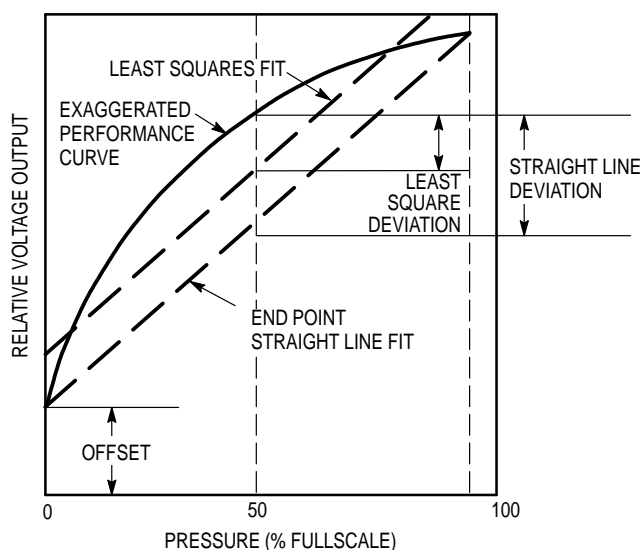

Figure 5. Linearity Specification Comparison
Linearity refers to how well a transducer's output follows the equation:  $V_{out} = V_{off} + \text{sensitivity} \times P$  over the operating pressure range. There are two basic methods for calculating nonlinearity: (1) end point straight line fit (see Figure 5) or (2) a least squares best line fit. While a least squares fit gives the "best case" linearity error (lower numerical value), the calculations required are burdensome.